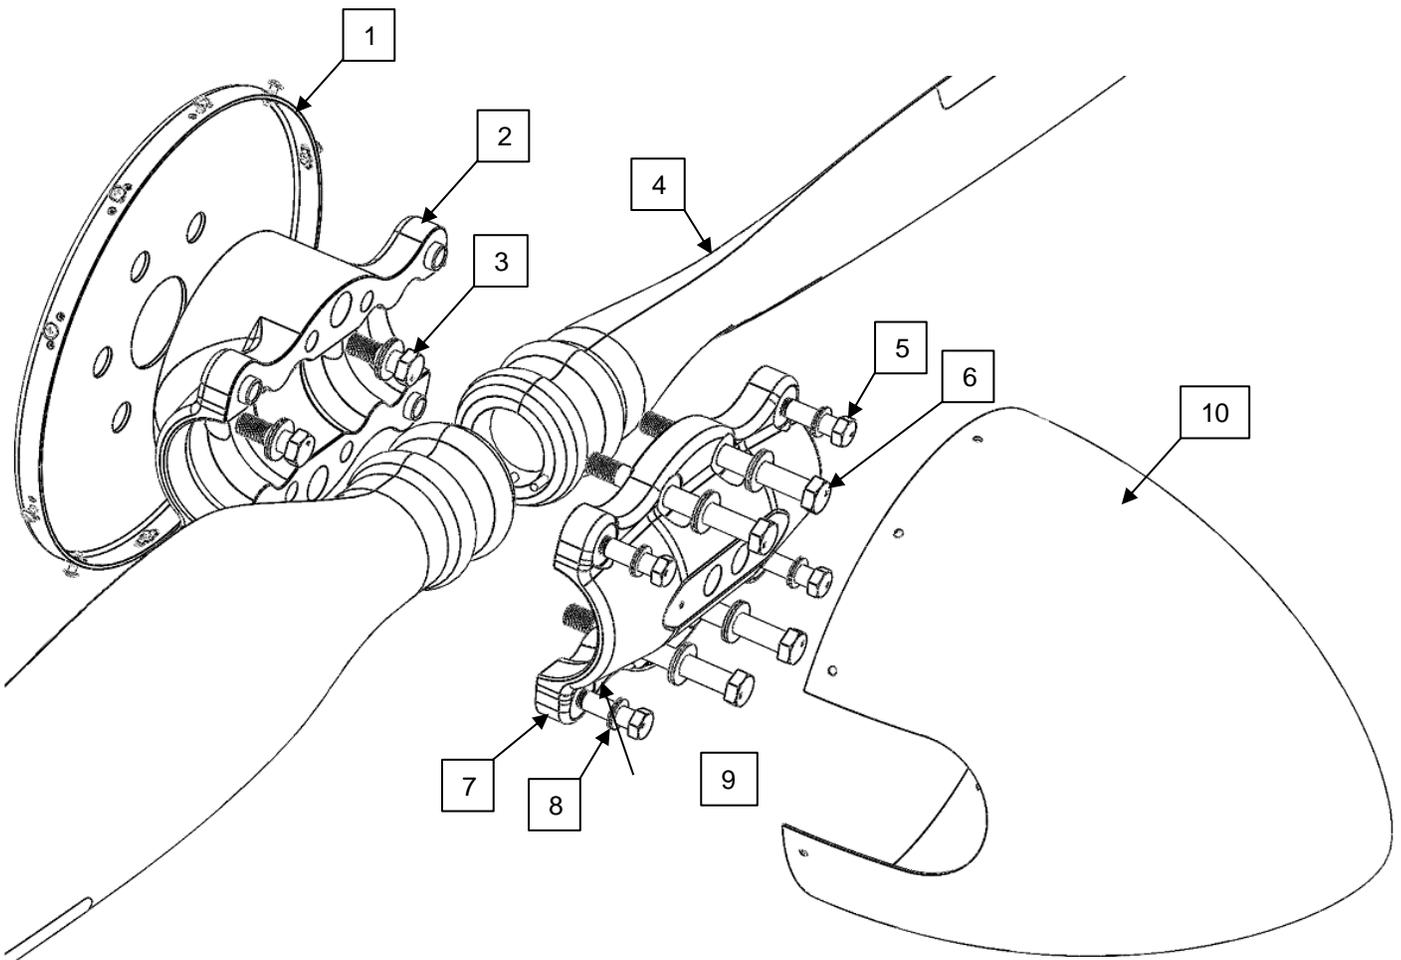

Figure 1: Propeller Assembly
A-1608 and A-1889 not included in Figure 1.
1. Ensure the aircraft magneto switch is in the "OFF" position and that both magnetos are grounded any time the propeller is handled. Chock the aircraft wheels to prevent movement. Clean dirt and oil residue from the engine flange. Refer to **Figure 1** for views of the two-piece hub and blade exploded assembly.
2. Zero the level/protractor on the engine flange (If digital level/protractor is being use make sure it does not turn off during the installation process). Place rear spinner bulkhead (if used) and the hub mount, as shown in **Figure 1**, on the engine flange. The hub MUST sit flush on the engine flange.
3. Refer to **Figure 1** for views of the two-piece hub and blade exploded assembly. Using two NL1/2SP Nord-Lock mount bolt washers and the two inner mount bolts (1/2-20 x 2"), secure the hub mount half and rear spinner bulkhead (if used) to the engine flange. Using a calibrated torque wrench, torque the two inner mounting bolts evenly using an alternating pattern. Tighten the bolts in several increments up to full torque, such as 50%, 75%, and full torque. See **Table 1**.